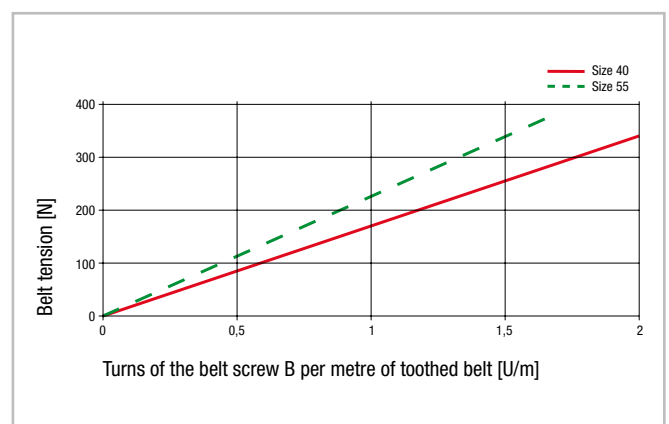

Fig. 63
2. Figures 63 and 64 opposite show how often the belt tensioning screws B must be turned until the desired deviation of the belt tension is reached.
4. Multiply the number of turns (see item 2) by the toothed belt length m (see item 3).
2. Figures 63 and 64 show that the value by which the belt tensioning screws B must be turned to increase the belt tension by 110 N is 0.5 turns.